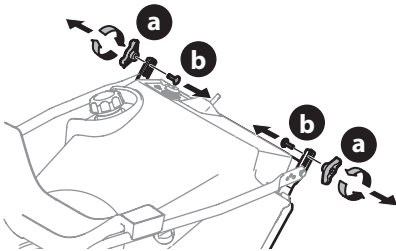
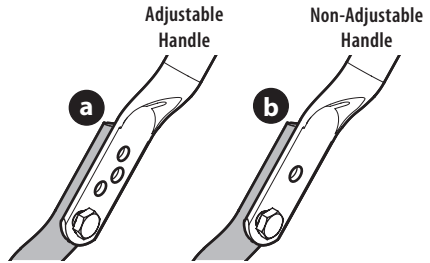

Figure 1
Figure 3
1. Remove the wing knob (a) and carriage bolt (b) from the top of the lower handle (Figure 1). It is not necessary to remove the shoulder screw and flange lock nut below the wing knob and carriage bolt unless the handle is loose in the carton.
3. For models with an adjustable handle (a) (Figure 3), proceed with Step 4. For models without adjustable handle (b) (Figure 3), tighten the hardware removed in Step 1 (Figure 1). Continue to Chute Control Styles on page 7.